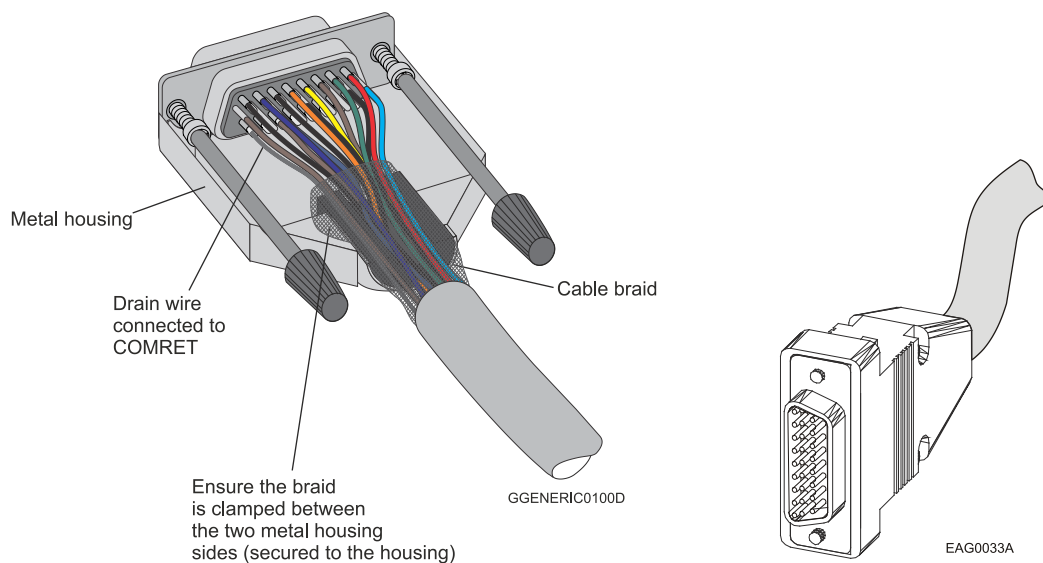

Figure 5: D-Type Cable Assemblies
5. Use only a D-Sub connector with a **metal housing** (Figure 5).
6. Make sure the braid shield is in tight contact with the metal housing of the D-type connector (Figure 5).